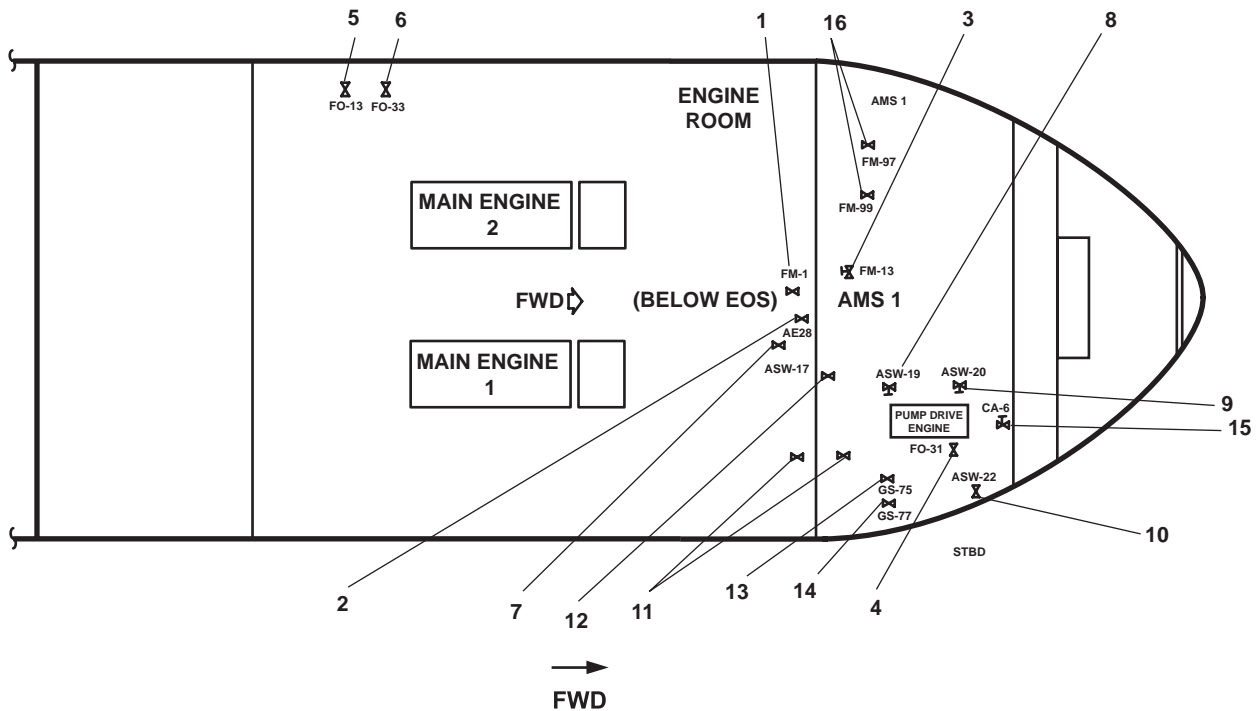

Figure 1. Firefighting System Valve Locations
- e. FO-13, F.O. SERV. SUCT. PORT (figure 1, item 5)
- f. FO-33, F.O. RTN TO DAY TK. PORT (figure 1, item 6)
- g. Asw-17, SEA SUCTION S.W. COOLING (figure 1, item 7)
- h. Asw-19, S.W. TO PUMP DRIVE ENG (figure 1, item 8)
- i. Asw-20, S.W. FR. PUMP DRIVE ENG. TO OVB'D DISCHARGE (figure 1, item 9)
- j. Asw-22, OVB'D. DISCH., S.W. COOLING (figure 1, item 10)
- k. FF PMP. SUCT. STR. DIFF. PRESS. GAUGE CUTOUT and FIRE MAIN PRESS. GAUGE (figure 1, item 11)
- l. SW STRNR. DIFF. PRESS. GAUGE CUTOUT valves (figure 1, item 12)
- m. GS-75, TOW WN HYD OIL CLR SPLY (figure 1, item 13)
- n. GS-77, HYD OIL CLR DISCH (figure 1, item 14)
- d. OPEN CA-6, STG AIR TO PMP DR ENG (figure 1, item 15).